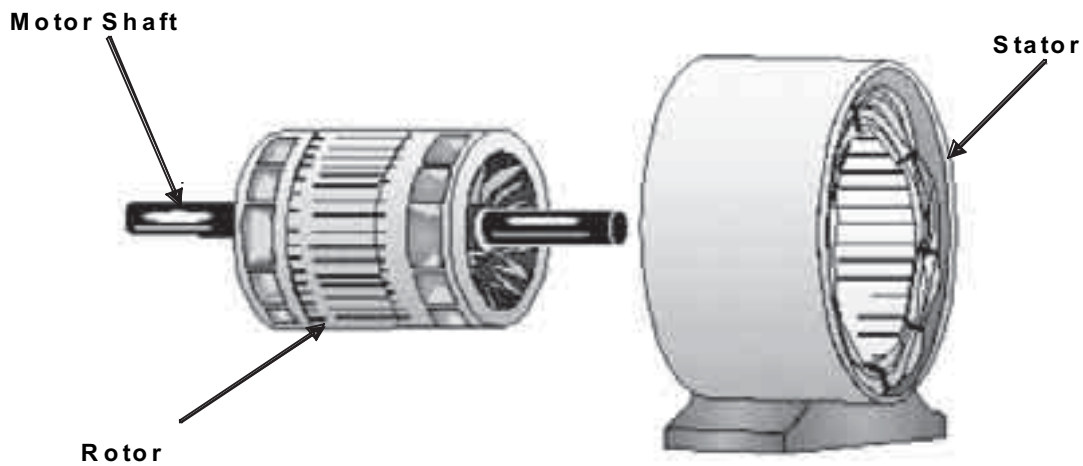
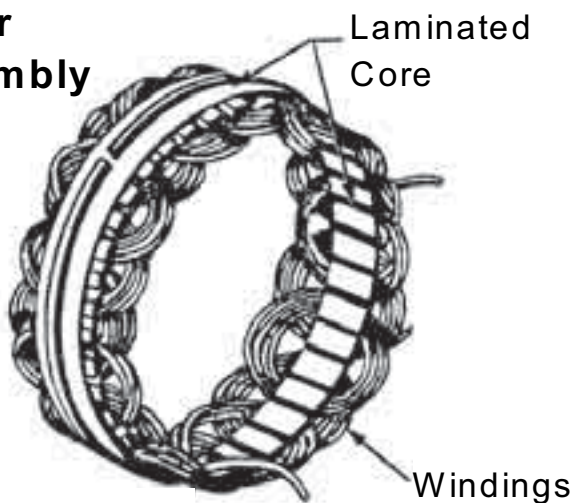
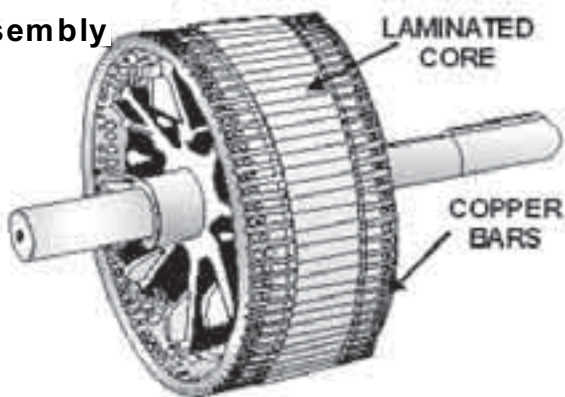

Figure 1
Figure 2
Figure 3
Before discussing ways to improve efficiency in an AC motor, it's important to understand how they work. Although there are several different types of AC motors in use today, by far the most common is the asynchronous squirrel-cage type motor, with an external stator core inside of which the rotor rotates. The motor shaft is attached to the rotor, and the rotation of the shaft produces the useful work. Figure 1 shows an exploded view of a typical squirrel-cage induction motor. Figure 2 and Figure 3 show more-detailed depictions of the stator and rotor construction in a typical motor.
- ◆ Real power (P), measured in watts (W), represented by the green shaded area in Figures 2 and 3
- ◆ Reactive power (Q), measured in reactive volt-amps (VAr), represented by the pink shaded area in Figure 3
- ◆ Apparent power (S), measured in volt-amps (VA), represented by the combination of the pink and the green areas
In the case of a sinusoidal waveform (as in Figures 2 and 3), P , Q and S can be expressed as vectors that form a triangle such that: